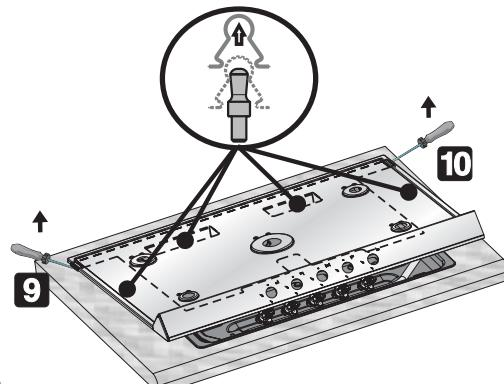

Fig 5)
- the burners and gas taps can only be accessed by pushing the rear of the hob gently upwards with the aid of a tool (9-10, Fig. 5).
This is necessary to release the internal snap fixing devices. The hob skin can now be removed. Some models may have 2 additional pins at the side (Fig. 5), which must be removed in the same way, using a tool to apply leverage to the hob.